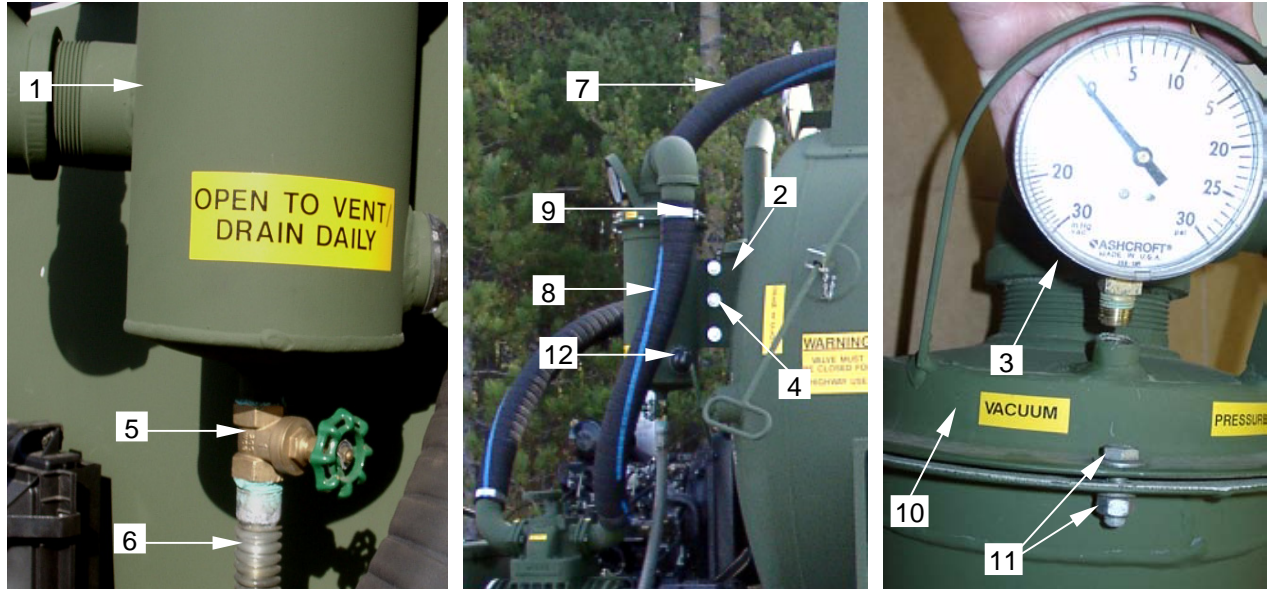

Figure 1. Moisture Trap
1. Inspect the moisture trap body (**figure 1, item 1**) for damage, secure attachment to the tank bracket (**figure 1, item 2**) and condition of pressure gage (**figure 1, item 3**). Report a damaged moisture trap housing and/or pressure gage to unit maintenance. Replace missing, or tighten loose bracket nuts and bolts (**figure 1, item 4**).
2. Visually inspect the drain valve (**figure 1, item 5**) for damage. Report a broken or bent drain valve to unit maintenance.
3. Determine the condition and ensure secure attachment of the drain hose (**figure 1, item 6**). Replace a missing or damaged drain hose as required.
4. Inspect the condition of the upper air hose (**figure 1, item 7**) and the pump air hose (**figure 1, item 8**). Ensure hose clamps (**figure 1, item 9**) are tight. Report a damaged air hose to unit maintenance. Tighten hose clamps as necessary.
5. Ensure moisture trap cover (**figure 1, item 10**) is securely fastened to the body (**figure 1, item 1**) and attaching hardware is in place and tight (**figure 1, item 11**). Report a loose lid or missing hardware to unit maintenance.
6. Check sight glass (**figure 1, item 12**) for sediment buildup. Inspect glass for cracks. If sight glass shows sediment, drain trap as described under SERVICE in this WP. Report a broken sight glass to unit maintenance.